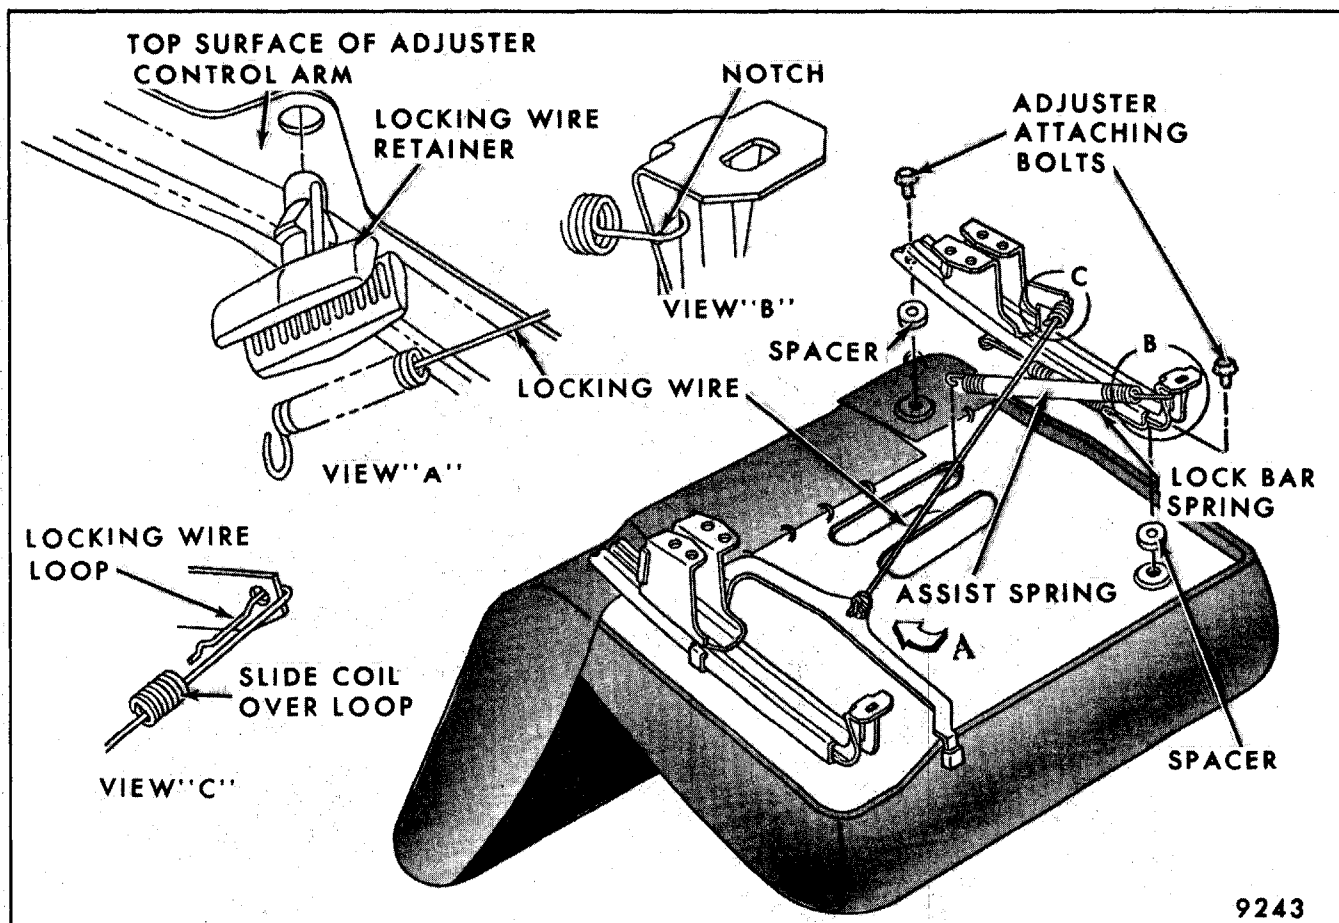

Fig. 9-19 - "B and C" Body Manually Operated Seat Adjusters - 45-55 Seat
- Figure 9-19 - "B and C" Body Manually Operated Seat Adjusters - 45-55 Seat